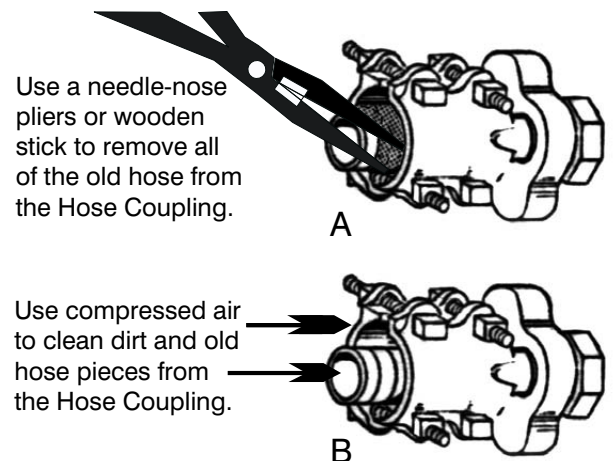

Figure 11-7. Clean coupling plug and clamp.
- c. Use a needle-nose pliers or wooden stick to remove hose pieces that are stuck to the coupling plug. Refer to Figure 11-7.